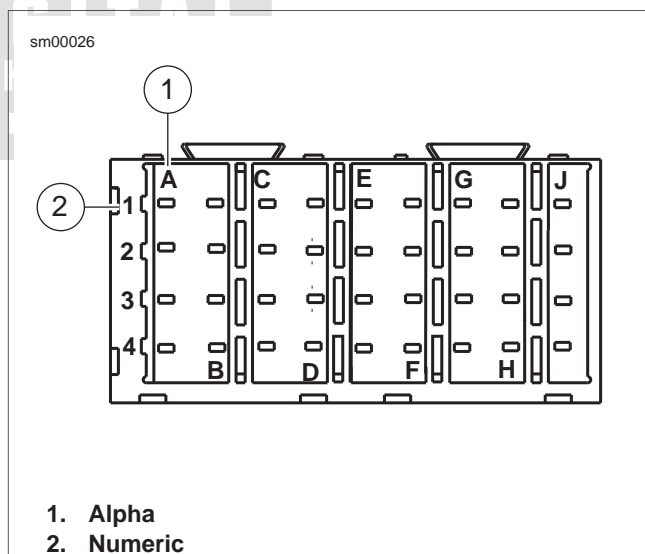

Figure A-22. Fuse Block: Coordinates (typical)
- See Figure A-22. The main fuse block terminal cavity is identified as alpha (1) and numeric (2) coordinates. Refer to the main harness wiring diagram for fuse block terminal cavity coordinates.